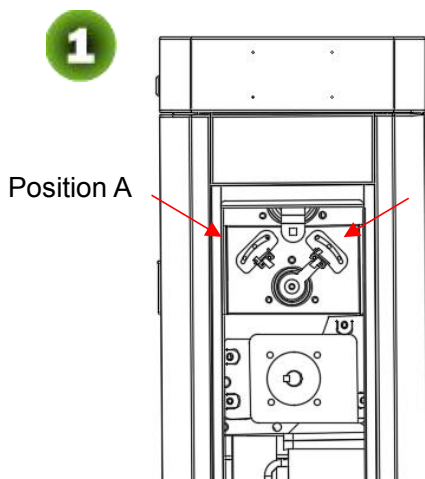

Figure 3-2A
- 1) If the boom fails to fall into a level position, adjust position A; if the boom fails to be lifted upright, adjust position B. See Figure 3-2A.